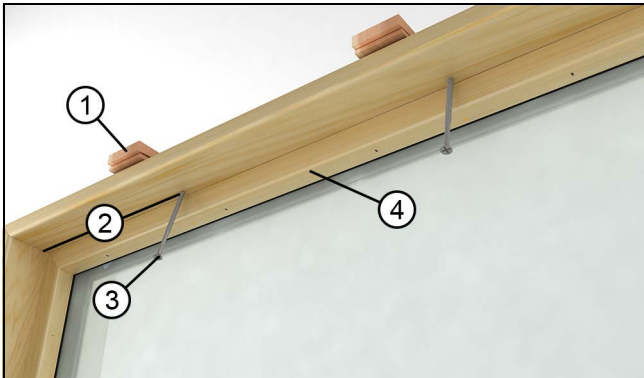

Figure 11 ELCADG mulled units.
1. Mark and pre-drill 1/4" (6) from the glazing bead at a 15 degree angle, with a 7/64" (3) drill bit, 8" (203) from each end and a maximum 14" (356) evenly spaced. Shim and fasten through the screw holes using the 3 1/8" round top installation screws. See Figure 11. Apply putty over the screw holes.